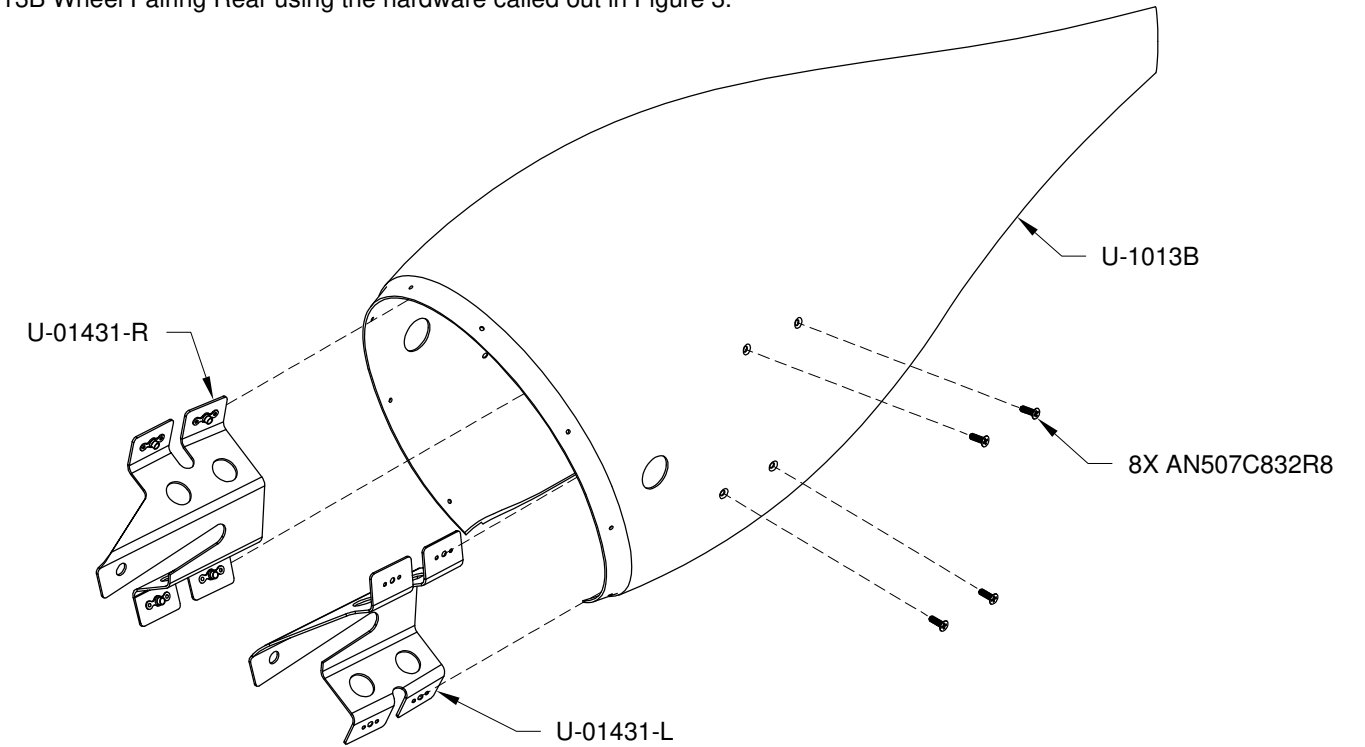

FIGURE 3: ATTACHING NOSE WHEEL - FAIRING BRACKETS
Step 8: Attach the U-01431-L & -R Nose Wheel Fairing Brackets to the U-1013B Wheel Fairing Rear using the hardware called out in Figure 3.